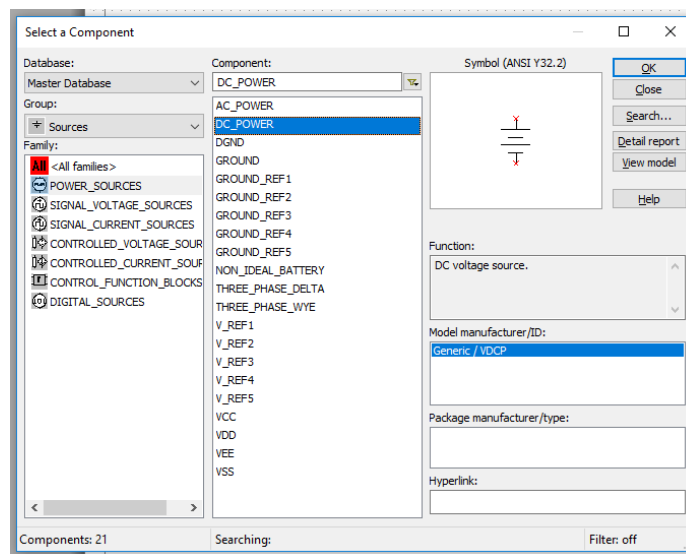

Figure 2. Select a Component window.
1. On the top toolbar click on the battery icon on the left (or from the menu bar select **Place/Component**). The **Select a Component** window (also known as the Component Browser) appears (Figure 2).